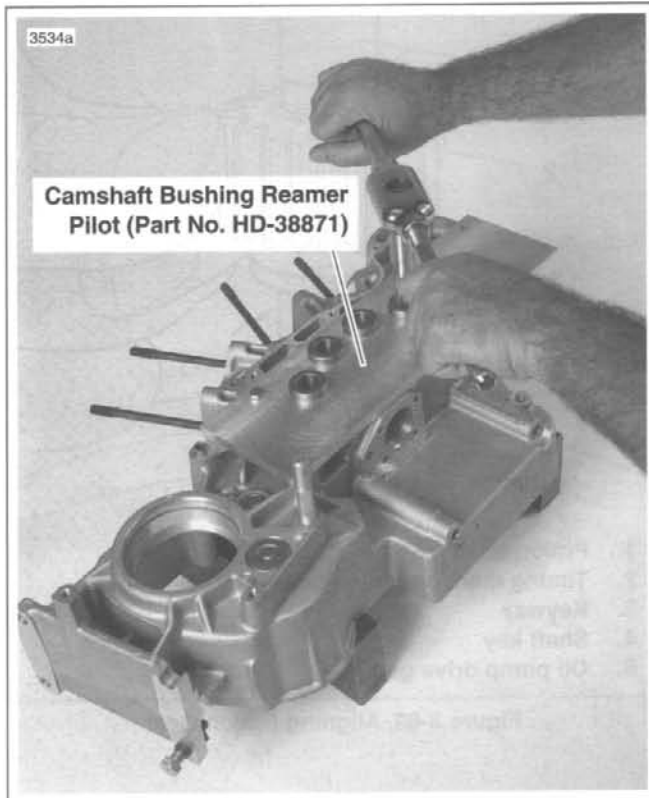

Figure 3-87. Reaming Cam Gear Bushing in Right Crankcase Half
2. See Figure 3-87. Position CAMSHAFT BUSHING REAMER PILOT (Part No. HD-38871) onto gearcase side of crankcase half; upper right and lower left indexing holes in pilot must be placed over dowels in crankcase half. Insert two bolts (supplied with pilot) through two remaining holes in pilot, and into threaded holes of crankcase half. Tighten bolts securely.